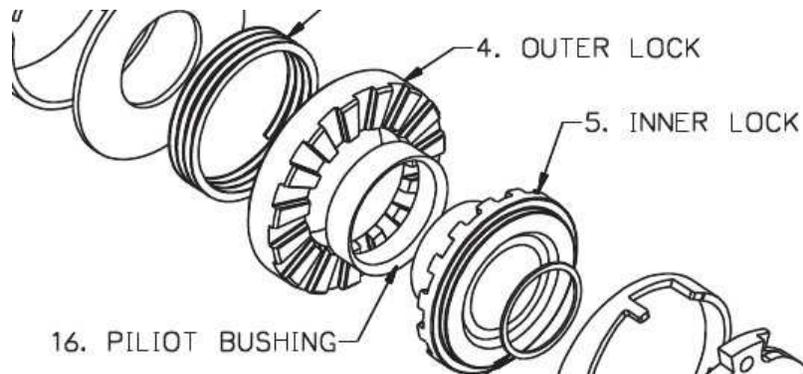

Figure 2, Pilot Bushing Assembly
1. Refer to step 9 of the instructions were the Inner Lock s about to be installed. At this point you will place the Pilot Bushing over the Inner Lock (Fig 2). There is a round edge on one side of the Pilot Bushing, make sure the round edge is facing the Inner Lock. Once the Pilot Bushing has been assembled with the Inner Lock you may install the part as shown in step 9. Once step 9 of the DynaLoc instructions has been completed proceed from step 10 and finish the installation.
2. Disassemble the DynaLoc kit until the Inner Lock has been removed as shown in step 9 of the instructions. At this point you will place the Pilot Bushing over the Inner Lock(Fig 2). There is a round edge on one side of the Pilot Bushing, make sure the round edge is facing the Inner Lock. Once the Pilot Bushing has been assembled with the Inner Lock you may install the part as shown in step 9. Once step 9 of the DynaLoc instructions has been completed proceed from step 10 and finish the installation.